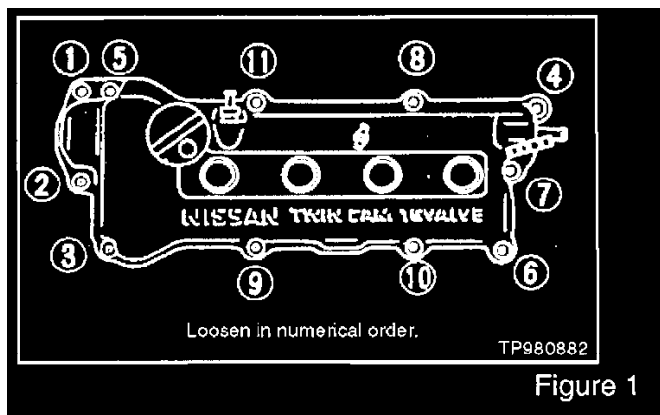

Figure 1
3. Remove the rocker cover (see Figure 1).
- c. Install new oil passage O-rings and apply a continuous bead of RTV sealant to the front cover (see Figure 1).